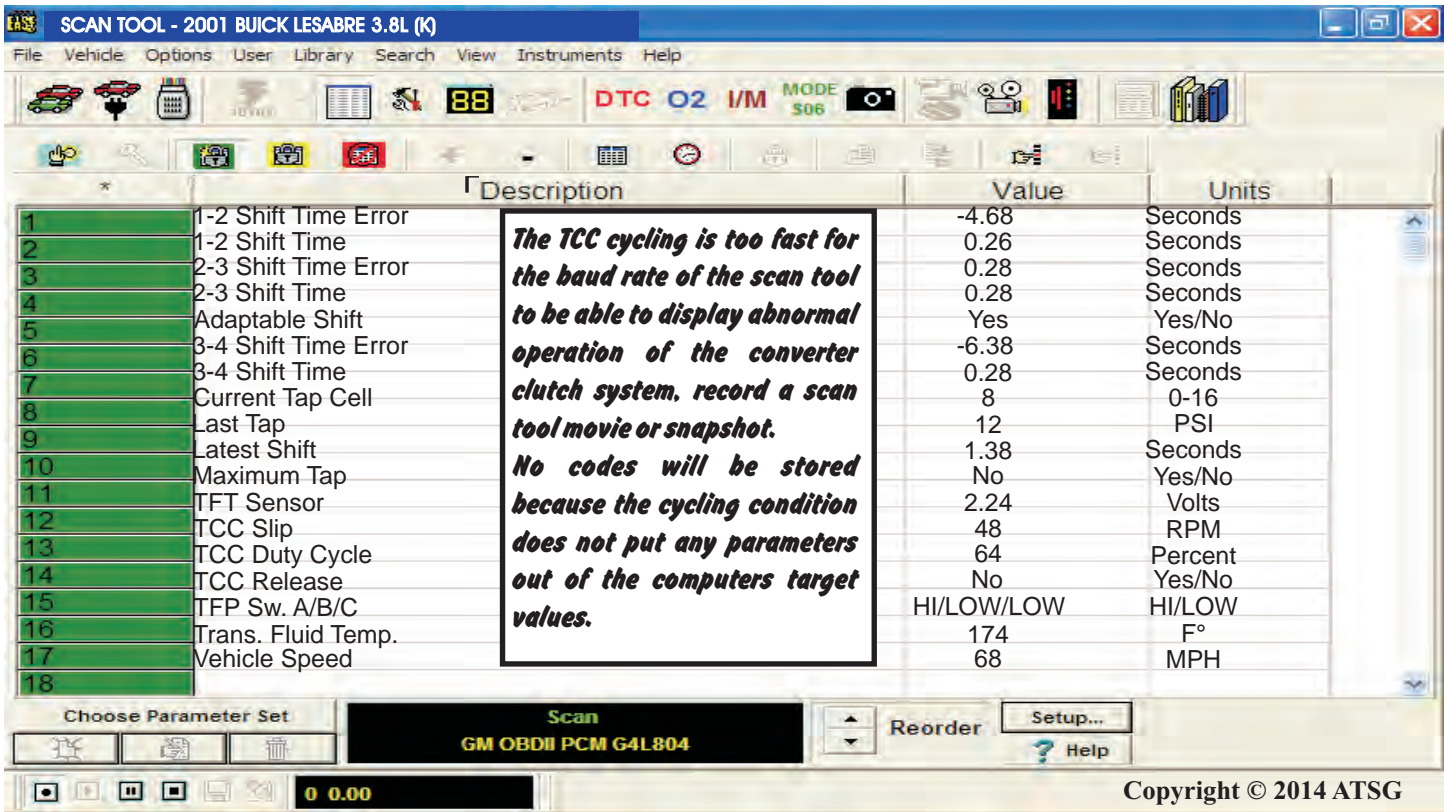

Figure 1
- 2 - Using a capable scan tool, perform a “Shift Adapt” reset and check the 4thGR/TCC Steady State that it is showing zero, Figures 1 and 2.